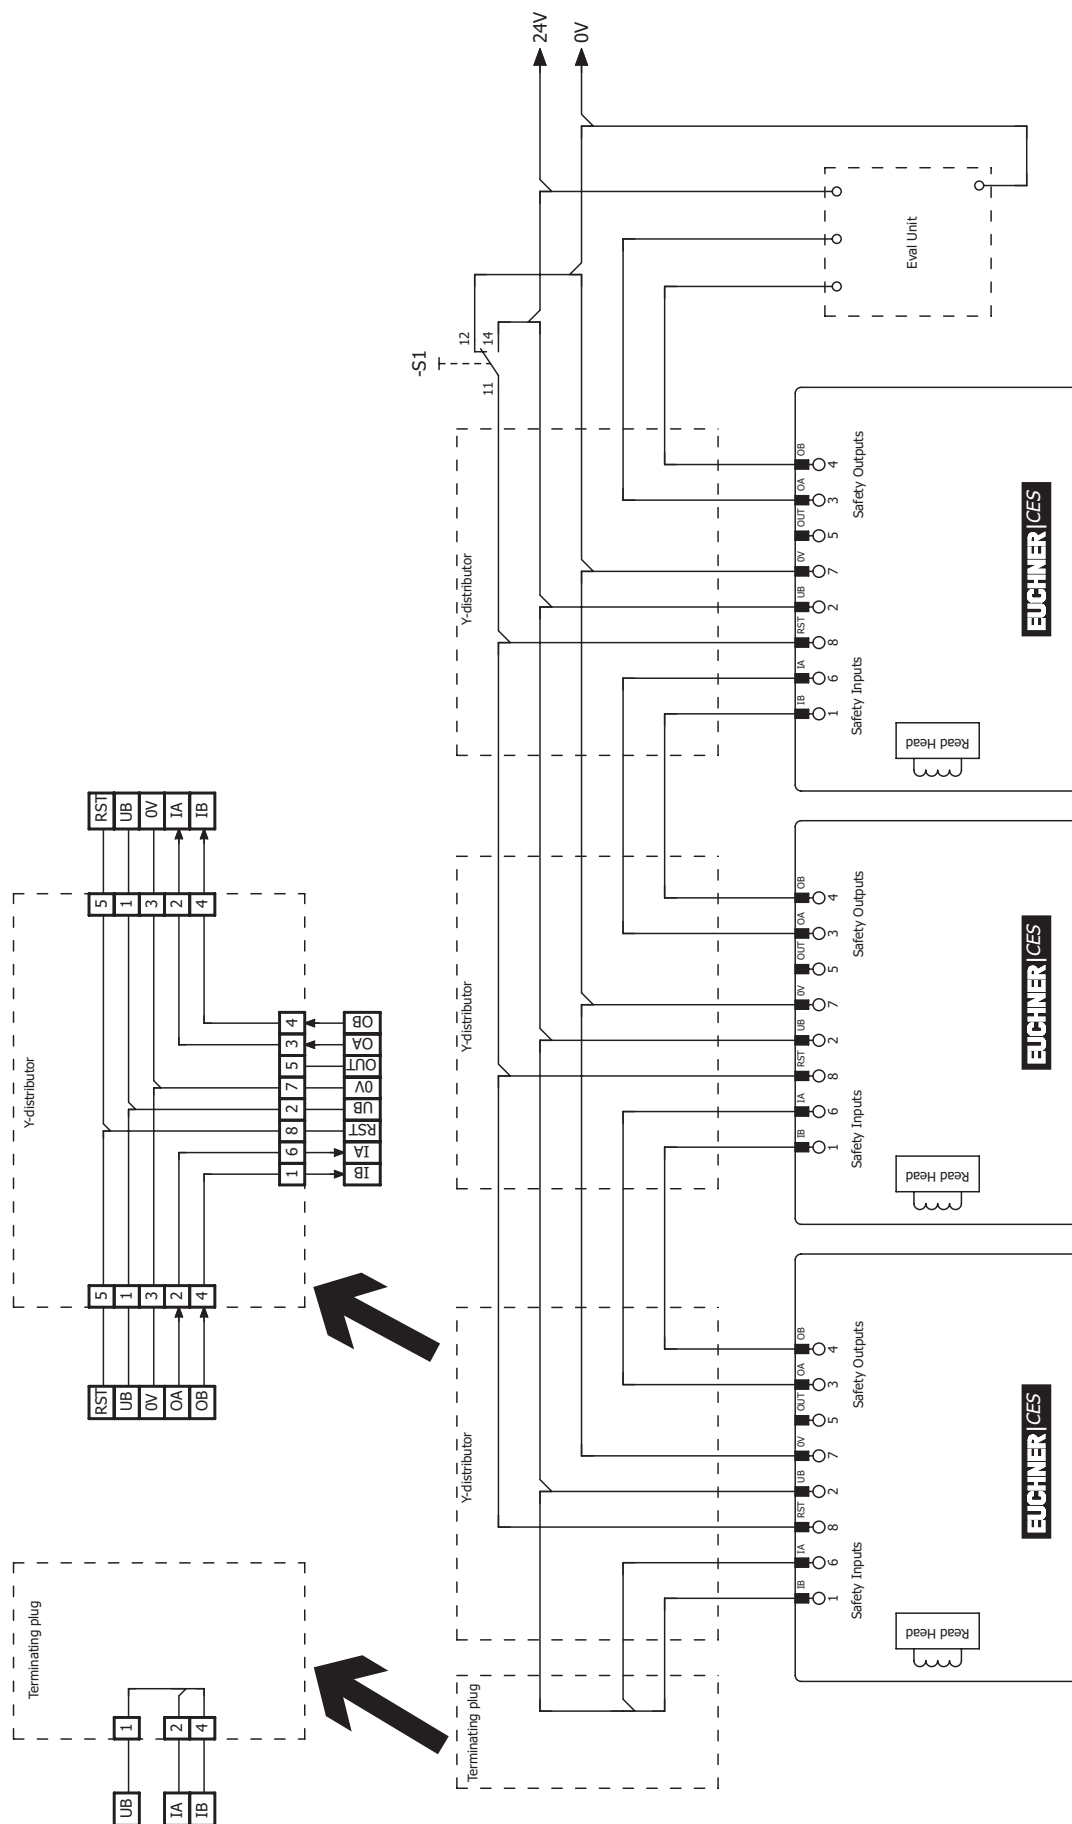
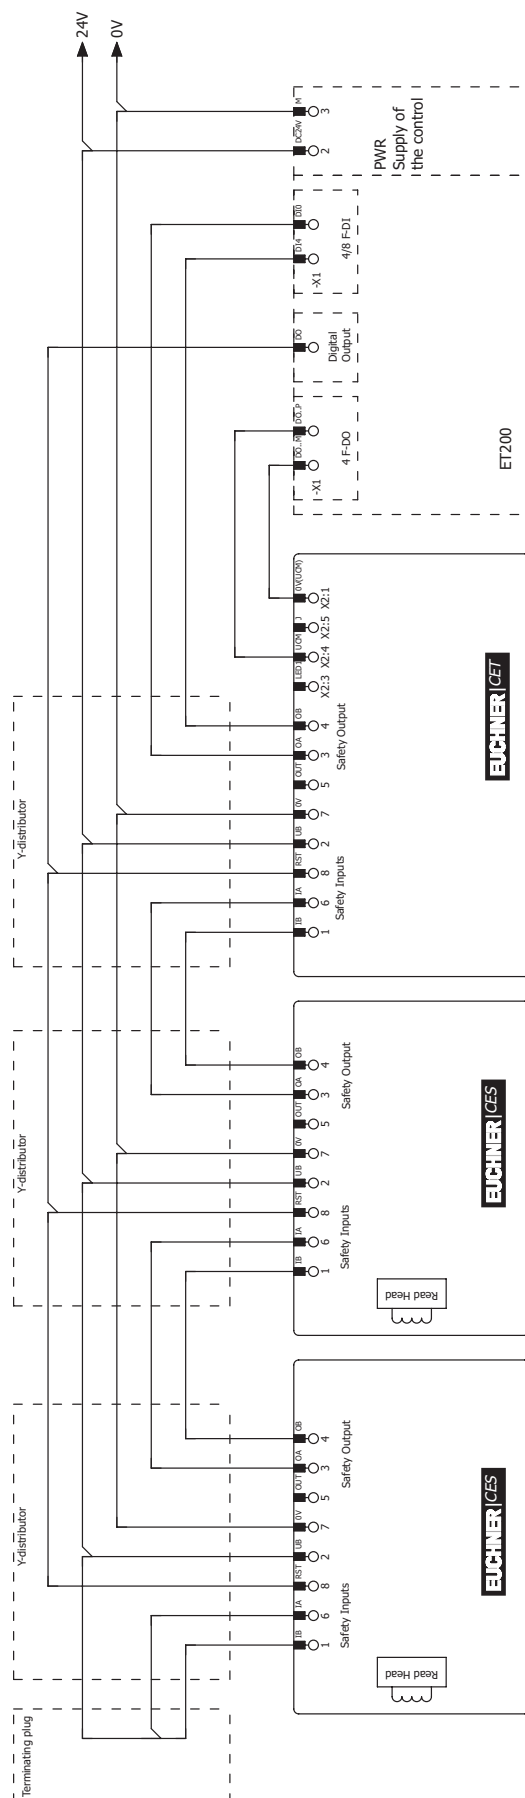

Figure 5: Connection example for series connection with reset and changeover switch.
Figure 6: Connection example for mixed series connection (2 x CES and 1 x CET) on ET200
- A common signal must be used for all switches in the chain. This can be a changeover switch or the output of a control system. A button is not suitable because Reset must always be connected to GND during operation (see switch S1 in Figure 5).
1. Install the switches and actuators and connect them completely (see Figure 5 or Figure 6, for example)
Input RST must be connected as shown in Figure 5 to permit this.